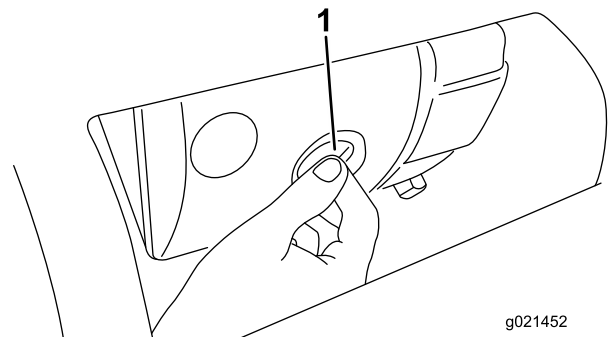

Figure 17
2. Unscrew the plastic wing nut and remove the cover (Figure 17).
7. Securely install the cover with the wing nut (Figure 17).